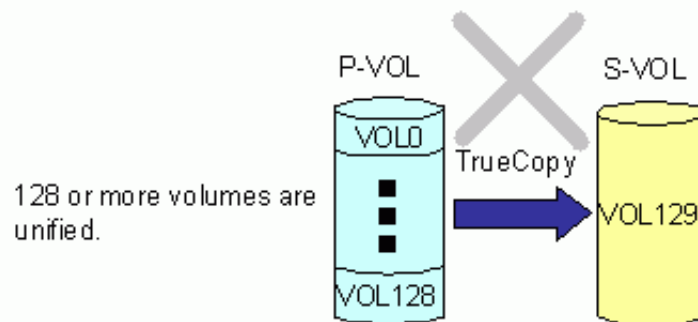

Figure 14-2: Number of volumes restricted
- A unified volume composed of 128 or more volumes cannot be assigned to the P-VOL or S-VOL, as shown in Figure 14-2.